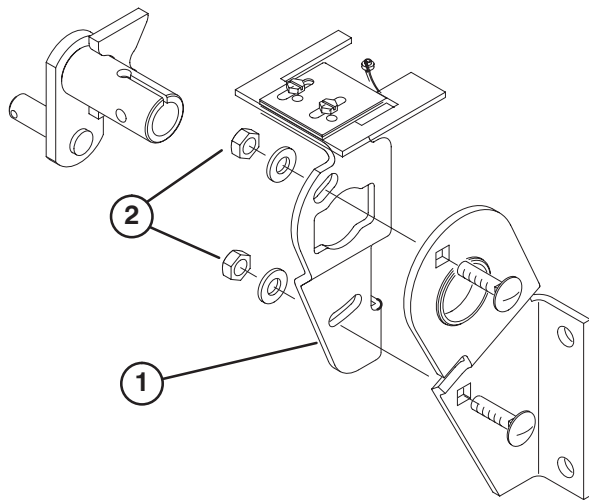

Figure 38
4. Loosen (2) locknuts securing pump plate to mounting plate. This will allow plate to move freely (Fig. 38).
5. Start engine and rotate pump plate (Fig. 38) in either direction until wheel ceases rotation.
6. Stop engine and tighten locknuts to secure pump plate (Fig. 38).